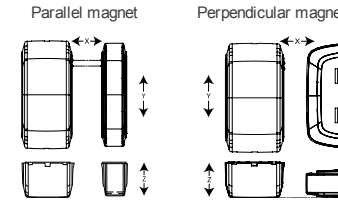

Figure 5: Range coverage directions
- For the proper operation of the AM function, align the magnet with the sensor decorative cover during calibration. See Figure 5 for parallel and perpendicular magnet installation.